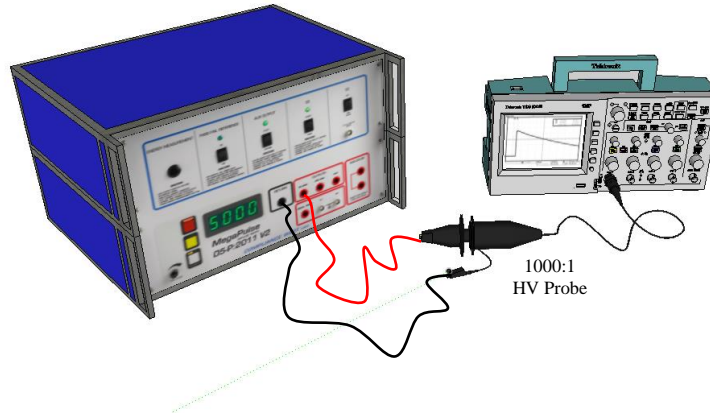

Figure 4. Checkout Pulse Setup
12. Connect the ends of the test leads to the measuring instrument. See Figure 4 for an example.